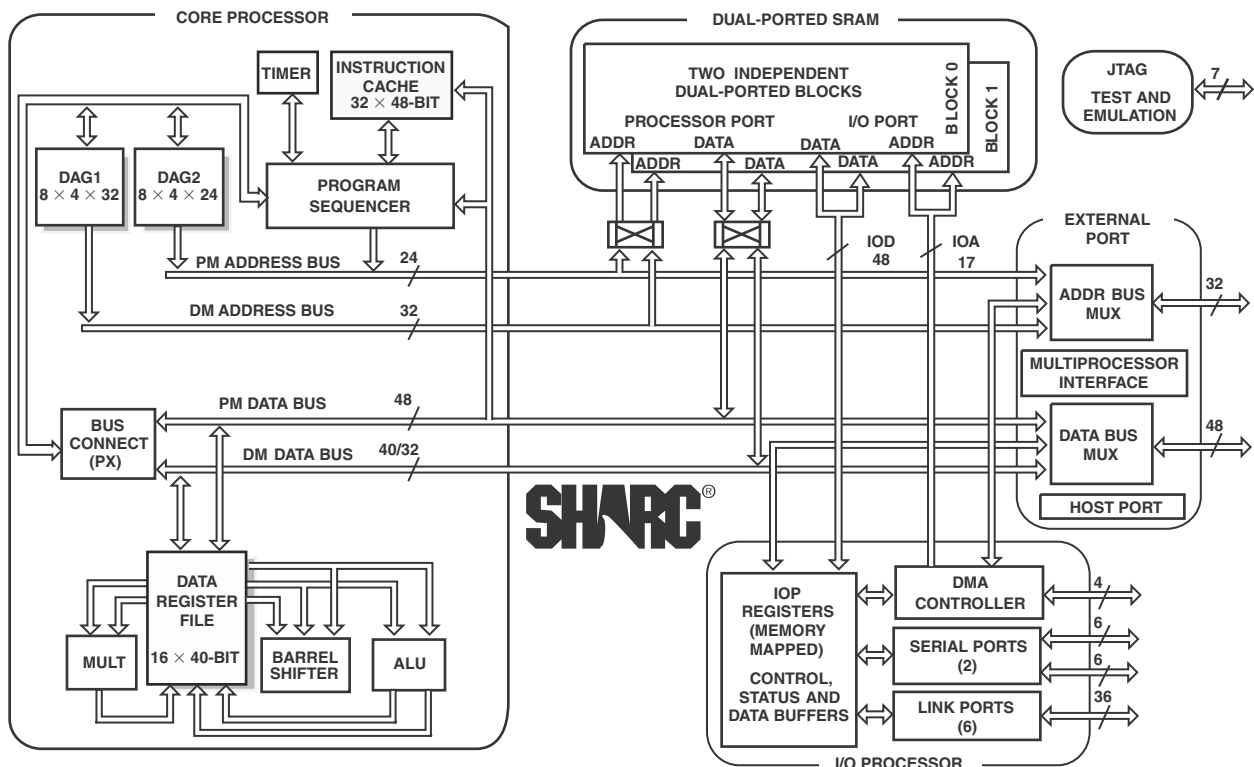

Figure 1. Functional Block Diagram
The ADSP-2106x features an enhanced Harvard architecture in which the data memory (DM) bus transfers data and the program memory (PM) bus transfers both instructions and data (see Figure 1 on Page 1). With its separate program and data memory buses and on-chip instruction cache, the processor can simultaneously fetch two operands and an instruction (from the cache), all in a single cycle.